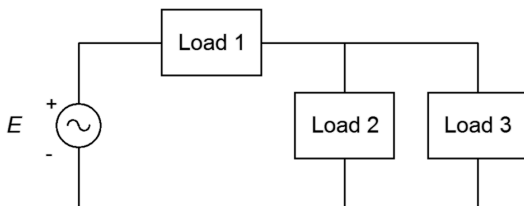

Figure 7.9
15. Consider the system shown in Figure 7.9. E is 240 V. If the three loads are 200 W, 400 W and 1000 W resistive, respectively, determine the apparent power delivered to the system, the real power and the reactive power.
16. Given the system shown in Figure 7.9, determine the apparent power delivered to the system, the real power, the reactive power and the efficiency. E is 480 V. The three loads are resistive heating elements of 1500 W, 2000 W and 3500 W, respectively.